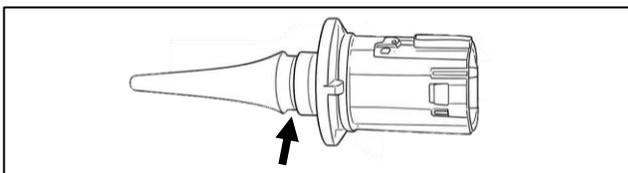

Figure 21: Air Sensor, Notch Location
28.  Install the air temperature sensor into the bracket by placing the sensor in the bracket and then pushing an O-ring up to the indicated notch to secure. Tighten the locknut at this time. **See Figure 21.**